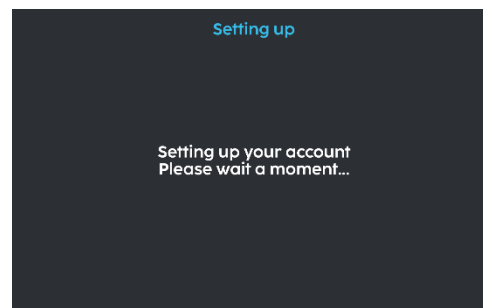

Fig. 7
7. Wait for your account to be setup (Fig. 7).